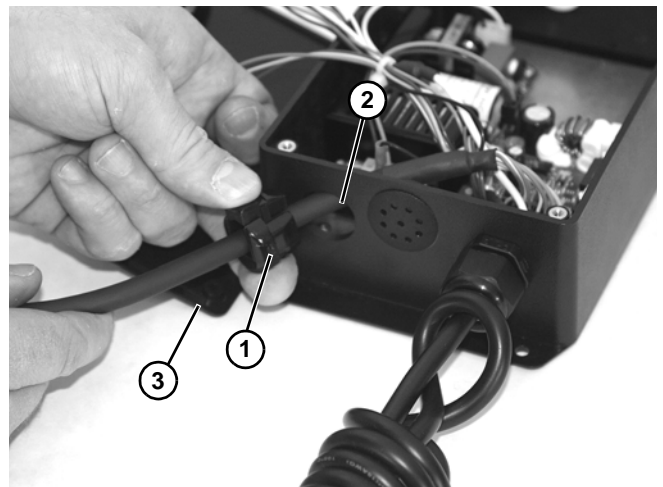

Figure 44
12. Install cord retainer (**Figure 44, item 1**) into controller opening (**Figure 44, item 2**).
13. Install cover (**Figure 44, item 3**) with four screws and cover from controller.